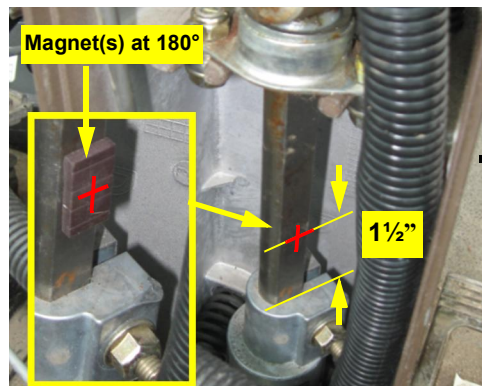

Figure 1c: Installed magnets
- c. Measure and mark a point 1½" from the top of the alloy clamp coupling at the bottom of the exposed steering shaft. Clean a magnet-length area of the shaft with the cross-marked point as the center. Using the two-part epoxy **SB**, attach magnets **SA** 180° apart on the steering shaft. Set the center of the magnets 1½" from the clamp coupling (Figure 1c).